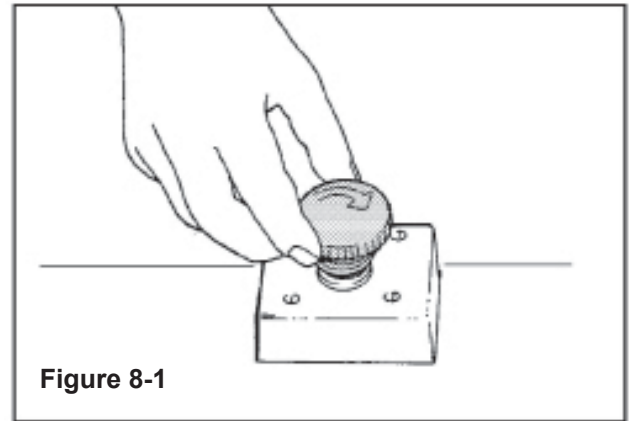

Figure 8-1
- The EMERGENCY STOP BUTTON unlocked (**Figure 8-1**)
The LATCHING EMERGENCY STOP BUTTON is located on the top center of the machine (This part is not produced by the machine manufacturer **Figure 8-1**).